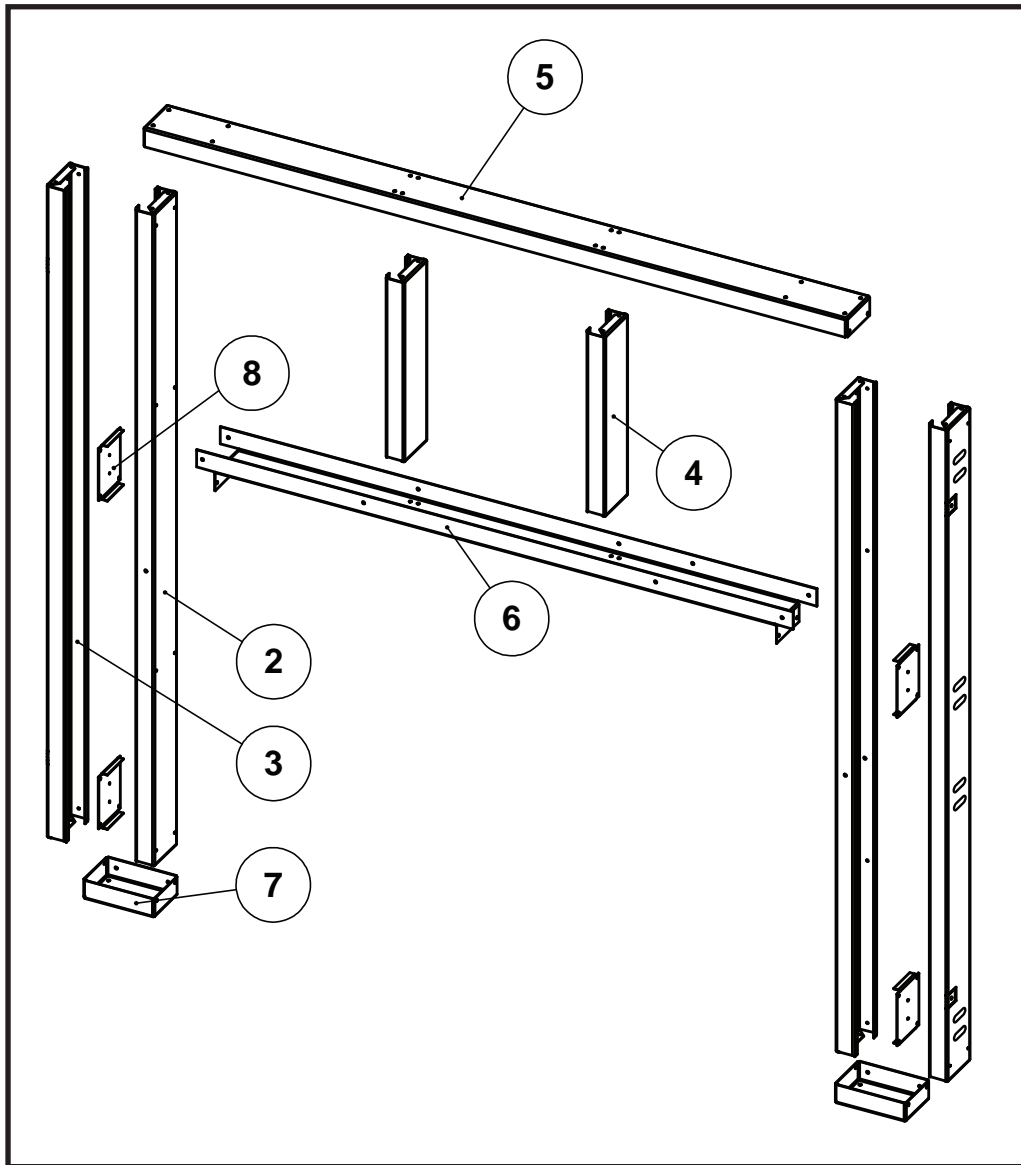

Figure 14: TC42D2 Steel frame parts.
Lay out the horizontal header stud (5) on a large flat surface. (Position all pieces on their narrow edges as shown in the illustration- (Figure 14).